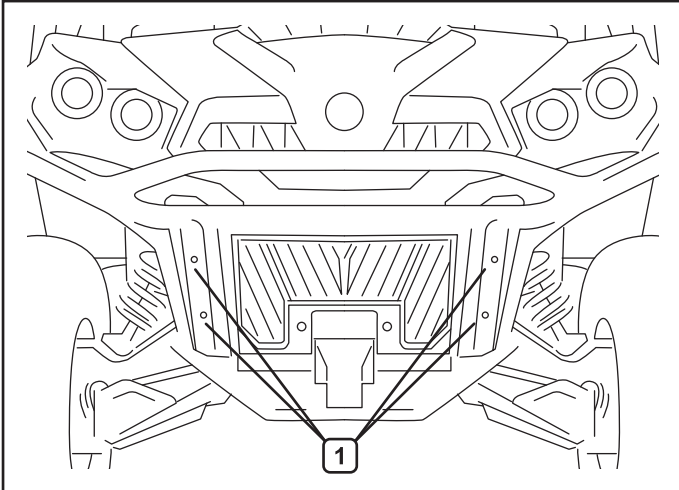

Figure 1.
1. Remove the front bumper by removing four bolts marked (1) in figure 1.